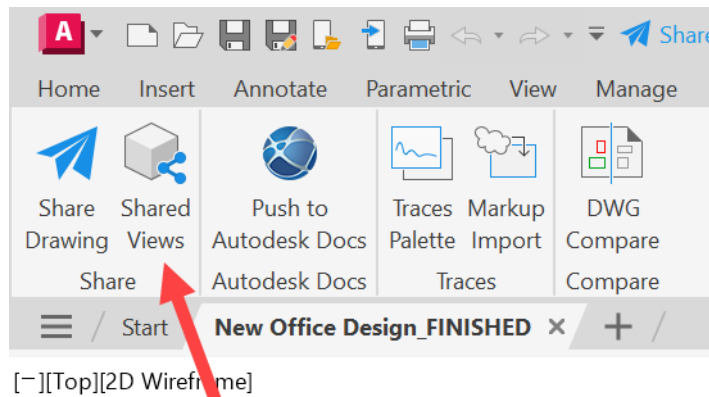

Figure 13.16: The Shared Views icon on the Share ribbon panel
1. With the drawing file open in the **Model** tab, go to the **Collaborate** tab on the ribbon. You will find the **Shared Views** icon on the **Share** ribbon panel, as shown in *Figure 13.16*.